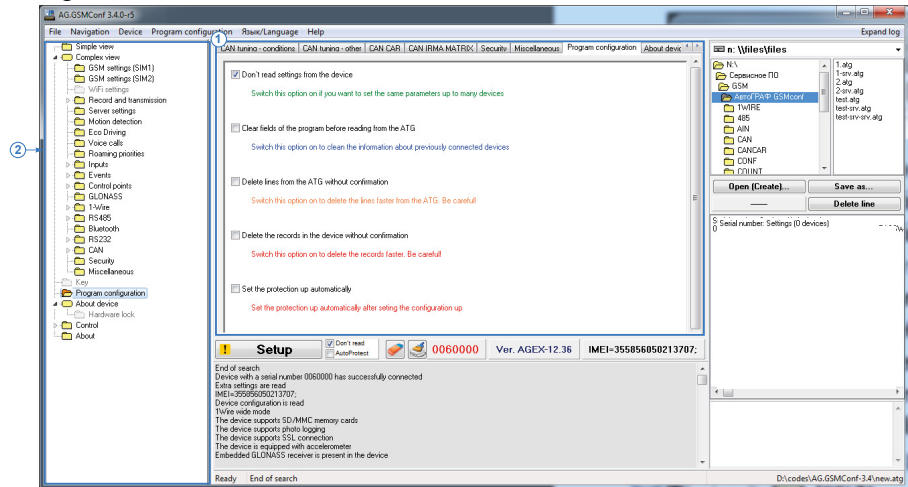

Fig.9. Program Configuration tab.
- **Hide dendrogram.** This option hides the dendrogram (see Fig.9, item 2).